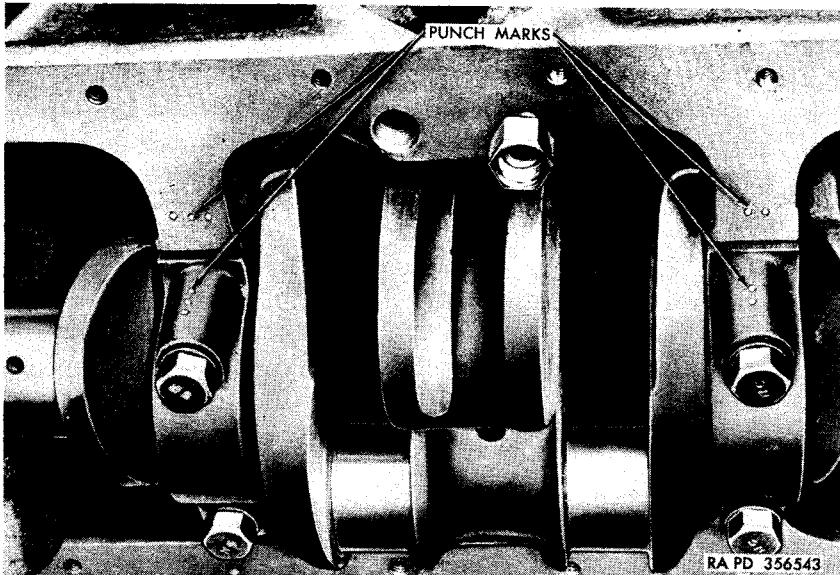

Figure 50. Punch marks on cylinder block and crankshaft bearing caps.
a. Remove Crankshaft. Before removing the crankshaft, be sure to prick punch the two intermediate crankshaft bearing caps and the cylinder block (fig. 50) so that the caps can be installed in their original position. Remove crankshaft (par. 367). If replacement of the